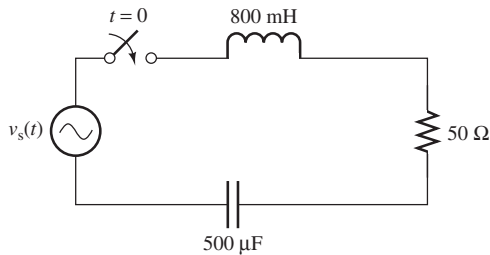

FIGURE P5.54 Circuit for Problem 5.54.
- 5.54 (H) The switch closes at $t = 0$ s. Find the expression of $v_C(t)$ for Figure P5.54, if the voltage source is $V_S(t) = 20\sin(50t)$.